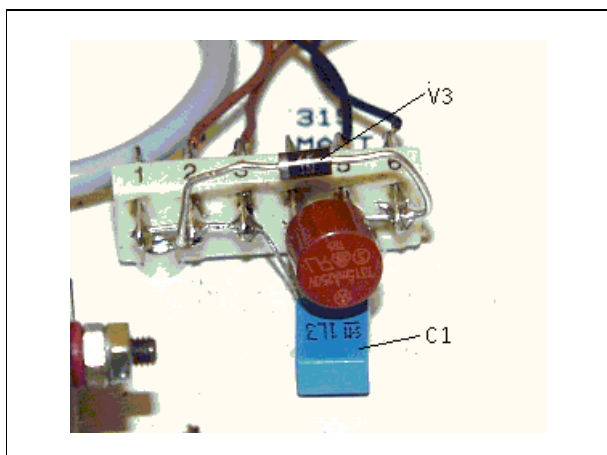

Fig. 1
- Solder the cathode of the V3 diode contained in the delivery volume to the soldering strip, connection 1 (Fig. 1).
- Solder the anode of the V3 diode to the soldering strip, connection 6 (Fig. 1).
- Solder the C1 capacitor contained in the delivery volume to the soldering strip, connection 1 and connection 6 (Fig. 1).